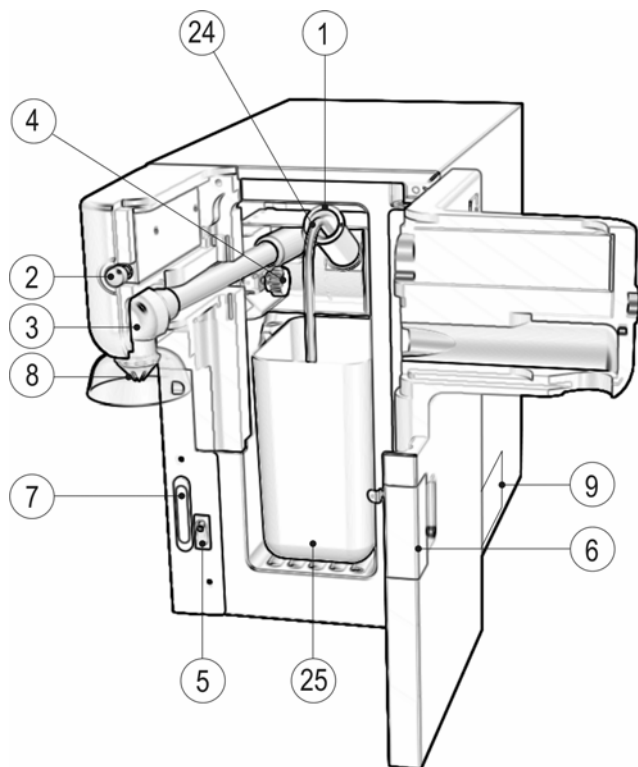
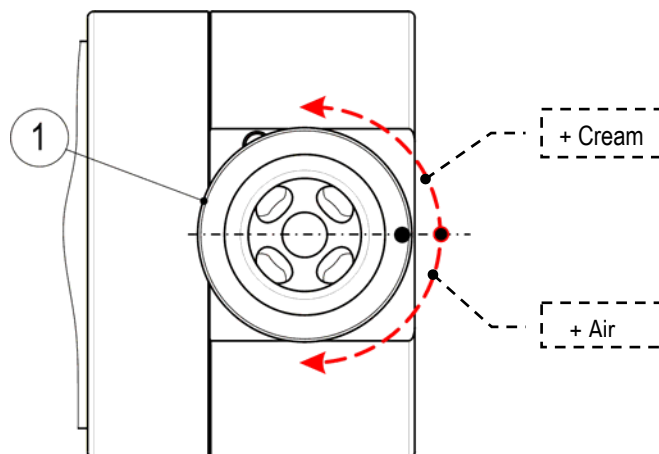
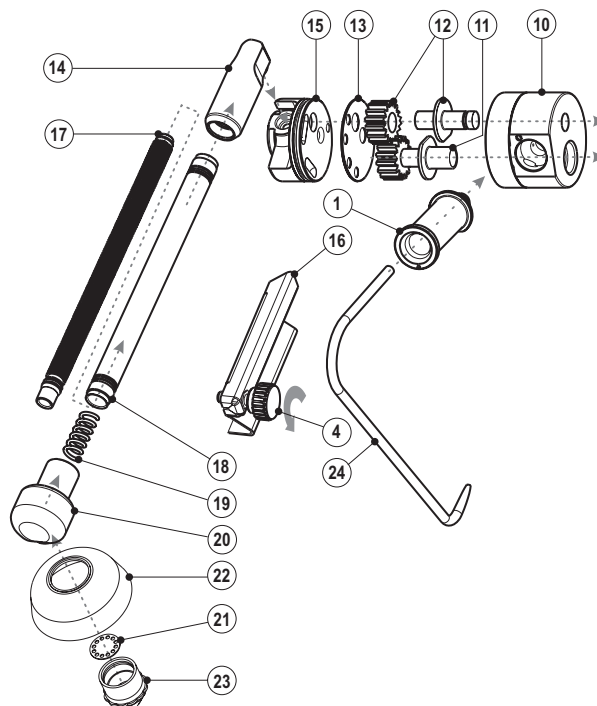

Fig.1
Fig. 2
Fig.3
- Press on the switch "1" (Fig. 1); when the green light is on, the machine is connected to the power supply.
- Before proceeding with the delivery of the whipped cream be sure that thermometer "7" (Fig. 1) has reached almost 6°C.
Turn the regulator "1" (Fig. 2) as show in the figure. The whipped cream is delivered through the decoration nozzle "8" (Fig.1) when the delivery button "2" (Fig. 1) is pressed.
Check that the locking knob "4" (Fig.1) is well tightened.
If no cream is produced about 20 seconds after pressing the delivery button "2" (Fig. 1), pour a teaspoonful of liquid cream into the funnel of the regulator "1" (Fig.1).
The machine produces a mixture of air and cream; this mix can be regulated "1" (Fig.2) by the arrows.
Turn the switch off "5" (Fig. 1); when the green light turns off, the machine is disconnected from the power supply.
Press the ON/OFF switch "5" (Fig. 1) the green led will light, place an empty receptacle on the plate, detach the tube "24" (Fig. 3), and press the delivery button "2" (Fig. 1) while pouring a lukewarm detergent solution into the regulator funnel "1" (Fig.1).
View figure 3. To dismantle the delivery outlet-pump for cleaning operation proceed as follows: slide the pin "24", take the tank away, loosen the knob "4", slide the bracket "16" out and remove the pump "3". Unscrew the tube "18", the delivery outlet "20" and slide the connector "14", the spring "19" and the mixer "17". The pump "10" can be dismantled just disjoining the cover "15", the diaphragm "13", the parts "11" and "12" and finally the air-cream regulator.